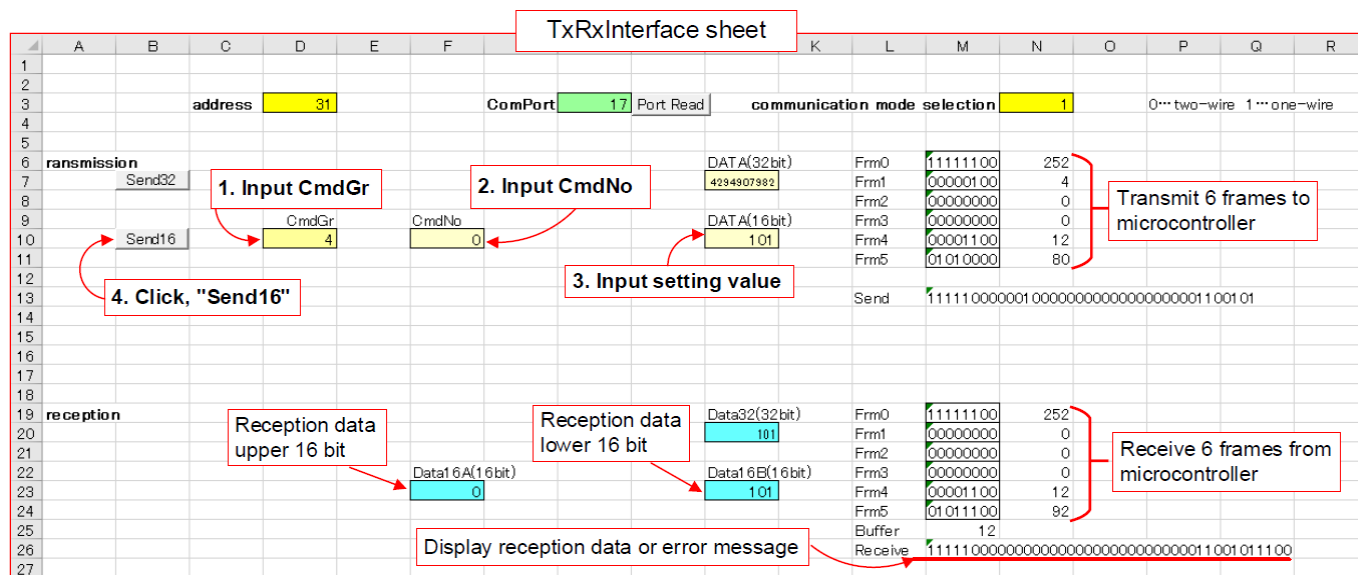

Figure 3-6. TxRxInterface sheet
3. Input DATA in decimal. Figure 3-6 is inputting commands to change the D/A converter code in the microcontroller. By inputting CmdGr="4" and CmdNo= "0", the code value of the microcomputer D/A converters can be changed to the value inputted in DATA. Depending on the command, certain register values in the microcontroller can be received. See Section 4 "Communication Commands List" for the commands that can be communicated with the buck converter EVK.
4. Click, "Send16". When the button is clicked, data is transmitted to the microcontroller, and the value is displayed in the cell of the receiving item below the 19th line when communication is successfully performed. In Figure 3-6, since the setting value is "101", "101" is displayed in J23 cell.